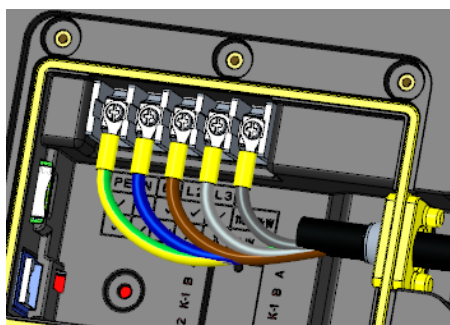

Figure 6: 11kW wiring diagram
7. Thread the incoming cable through the large hole in the center of the rubber plug of the cable, compress the terminal, and fasten it to the wiring connector with a screw (torque 1.8 Nm, there is a wiring comparison table in the shell). The 11kW charger is connected with 5 entry cables. (Figure 6)